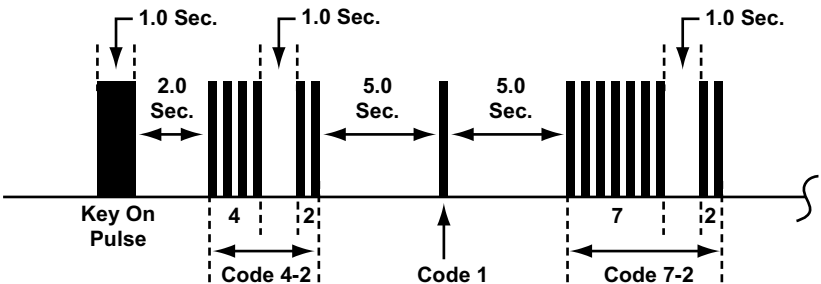

Figure 8-28 Honda ABS Code Type 02
- Type 02, see Figure 8-28 and Table 8-6 on page 78